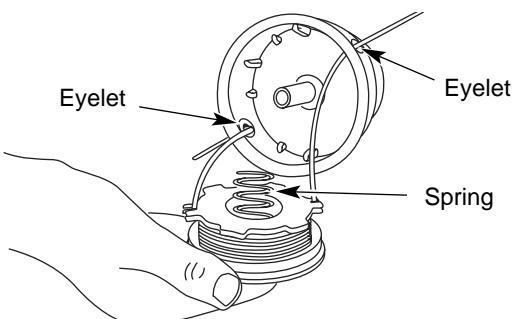

Fig. 22
13. Insert the ends of the line through the eyelets in the outer spool and place inner reel with spring inside the outer spool (Fig. 22). Push the inner reel and outer spool together. While holding the inner reel and outer spool, grasp the ends and pull firmly to release the line from the holding slots in the reel.
5. Insert the ends of the line through the eyelets in the outer spool (Fig. 22).